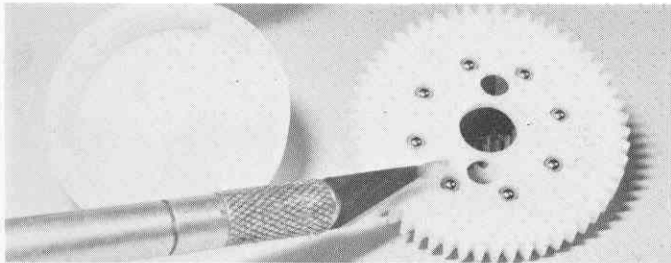

Fig. 72
□ **Fig. 72** Apply a small amount of this special lube to the balls on both sides of the gear. NEVER use any other type of lube on the balls, otherwise the dif will slip.